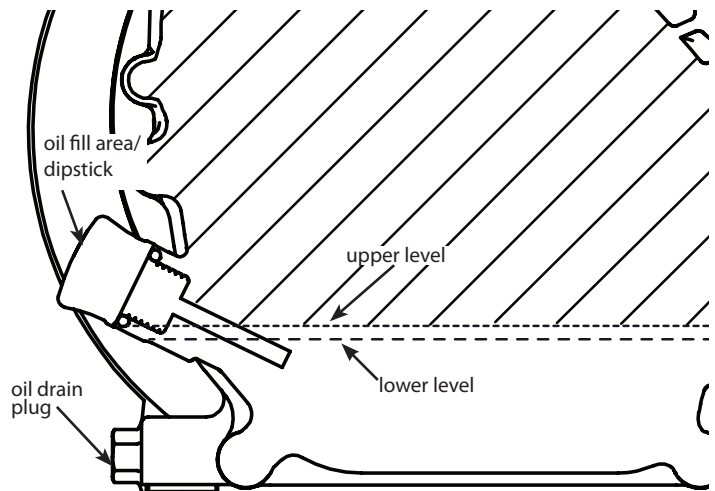

Figure 9: Filling and changing oil
2. Remove oil drain plug and empty oil into suitable oil container. Dispose of oil properly. **SEE FIGURE 9.**
3. Reinstall drain plug. Remove dipstick (if applicable) or oil fill cap. **SEE FIGURE 9.**
4. Fill with appropriate oil to "FULL" or top line of dipstick; otherwise to top thread of oil fill hole. **SEE FIGURE 9.**
4. After analysis, seat spark plug and tighten with spark plug wrench to compress the sealing washer. **SEE FIGURE 9 on previous page.**